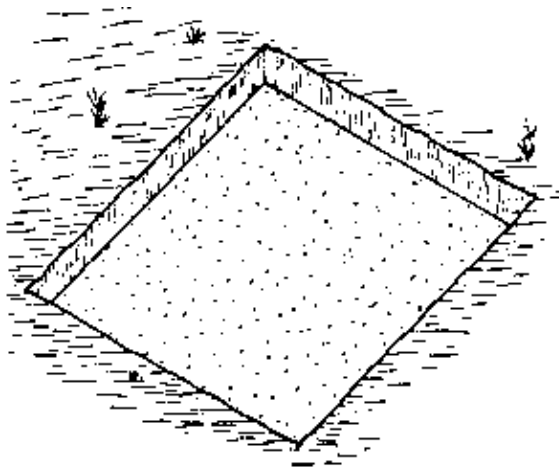

Fig. 3
– SLAB FOUNDATION: This is used for water tanks and septic tanks (Fig. 3).